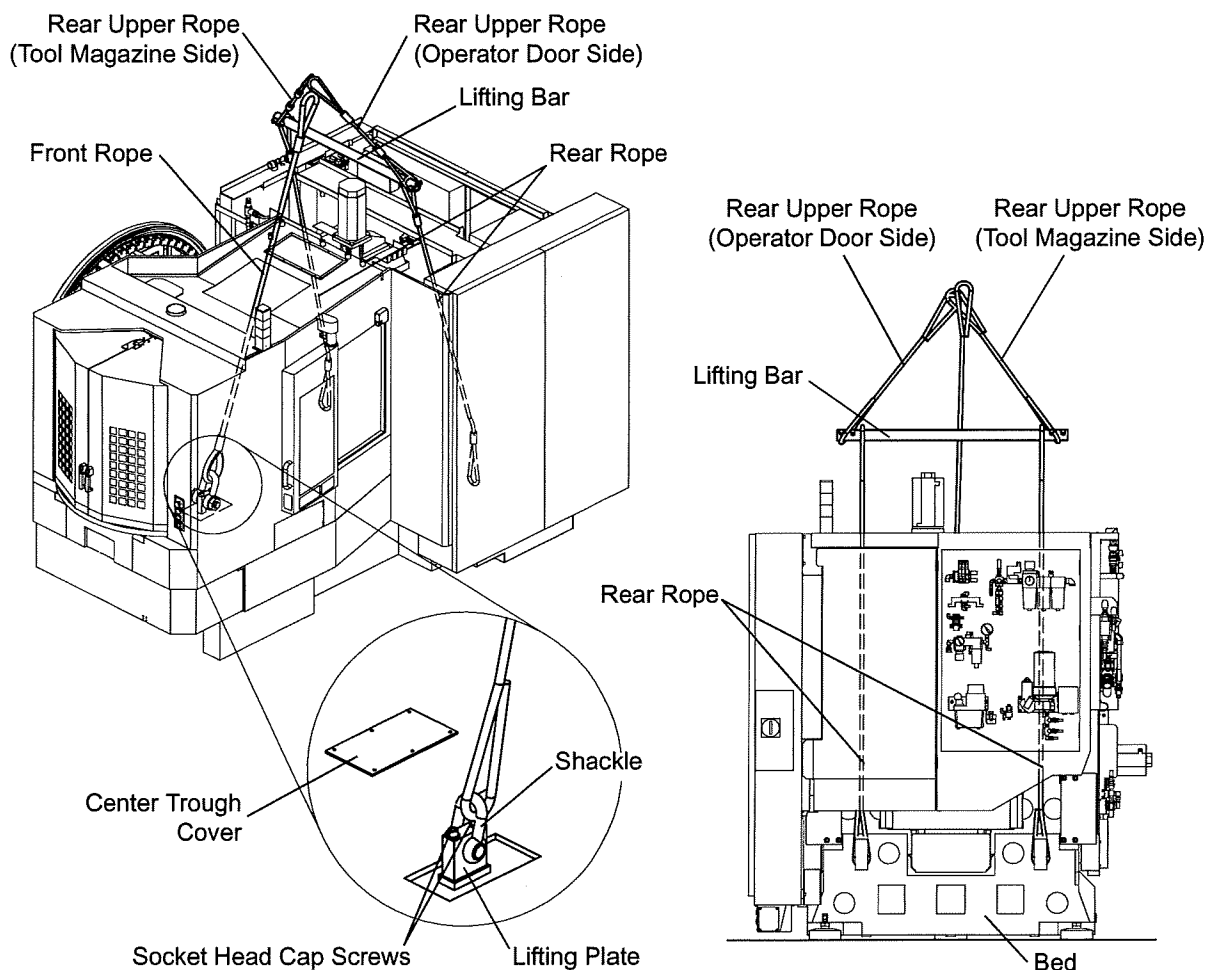
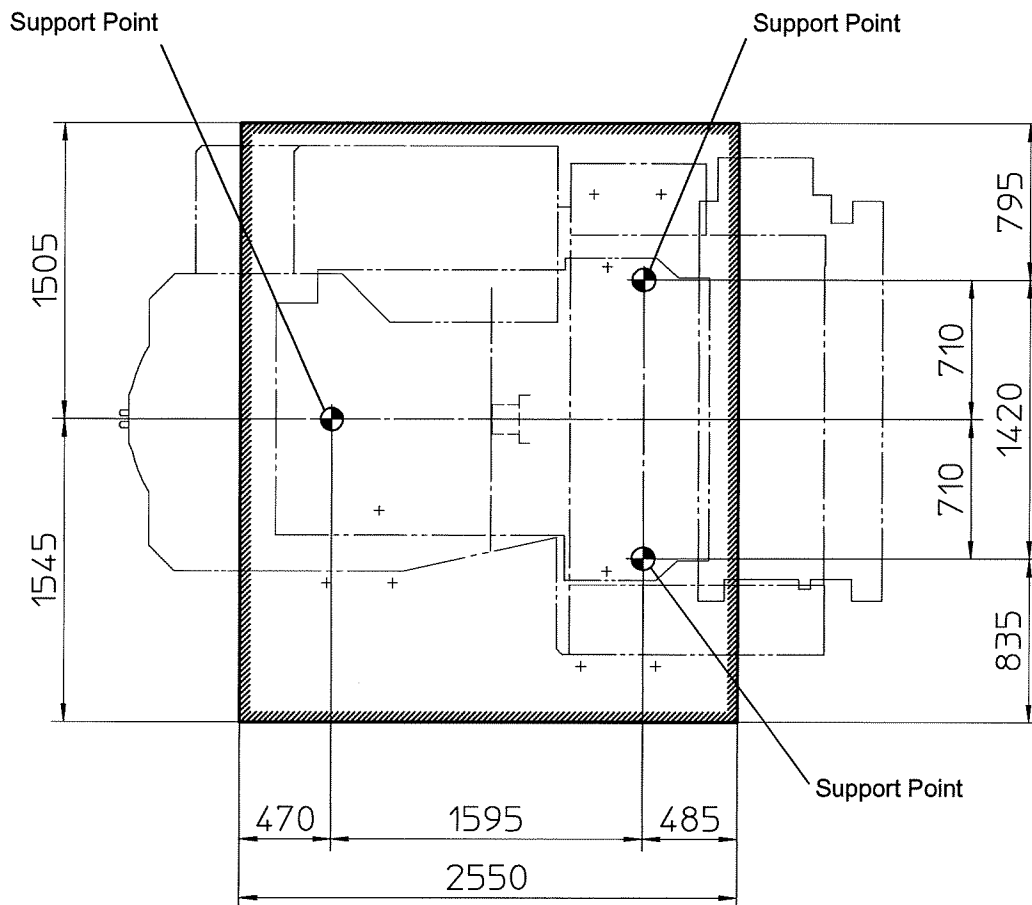
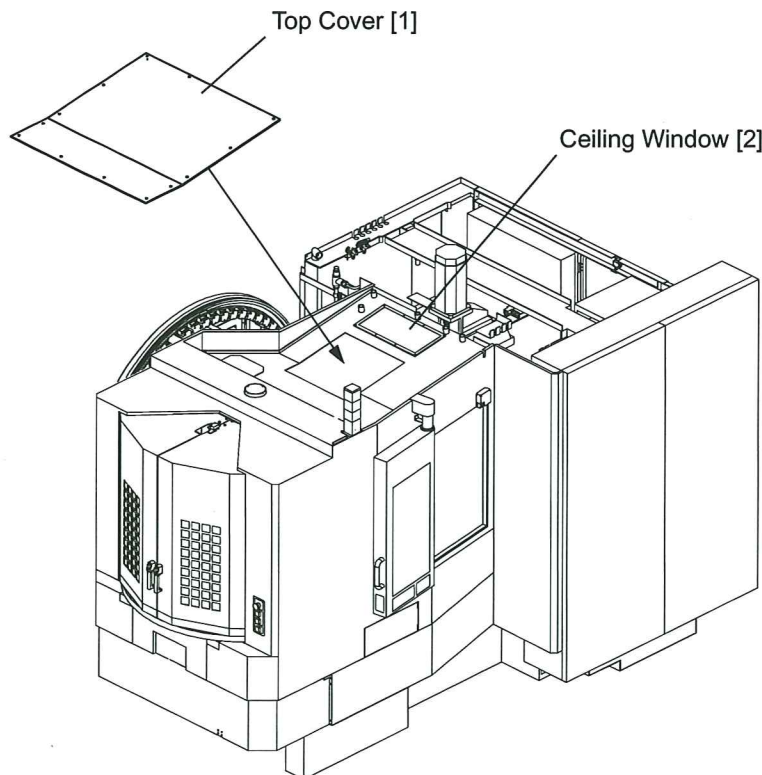

Figure 3.1 Lifting of Main Machine
Figure 3.2 Main Machine Installation
Figure 3.3 Lifting Equipment Removal
Figure 3.1, Figure 3.2, Figure 3.3
- 4) Mount the ropes to the lifting bar as shown in Figure 3.1.
- 10) Lift the machine carefully using a crane and place it as shown in Figure 3.2.
#### Removal Procedure Figure 3.1, Figure 3.3